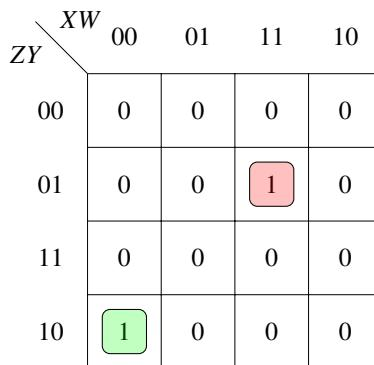

Fig. 4.4: K-map for D
9. Minimize (4.8) using Fig 4.4